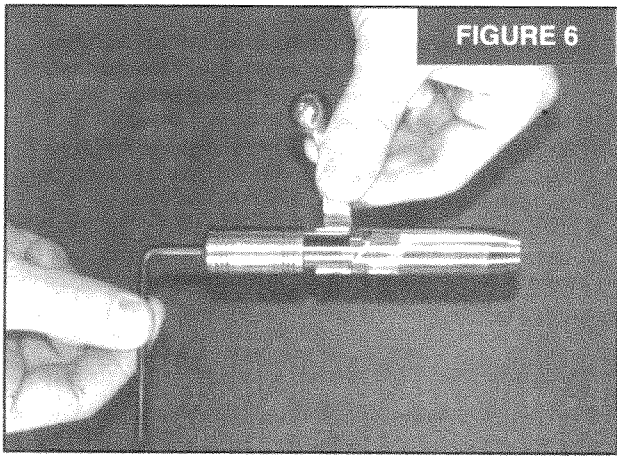

FIGURE 6
- bolt body will now come apart (Figure 6).